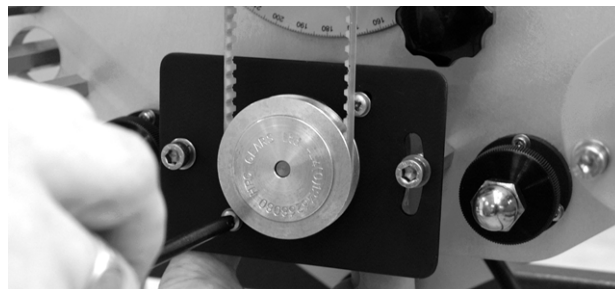

Figure 11 Loosen the Two Small Screws on the AFA4 Mounting Plate
7. Loosen the two small screws on the AFA4 mounting plate (see Figure 11).